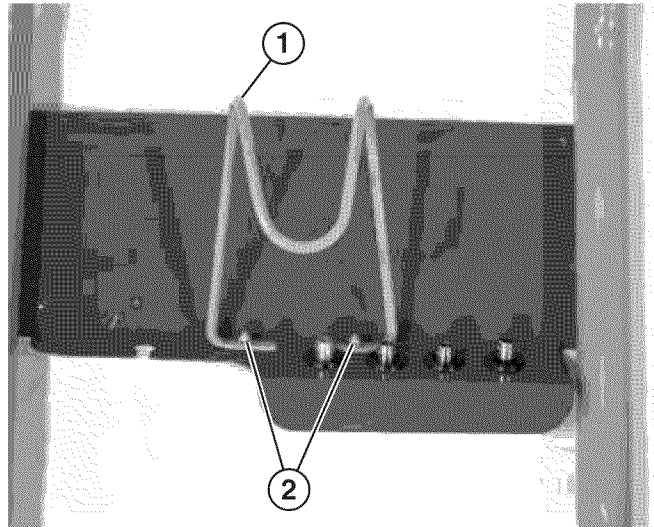

Figure 11 – Installing Hose Bracket
- Install the hose bracket to the handle using the M5 bolts and nuts (see Figure 11).